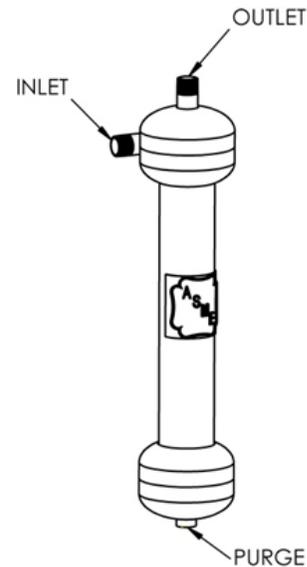
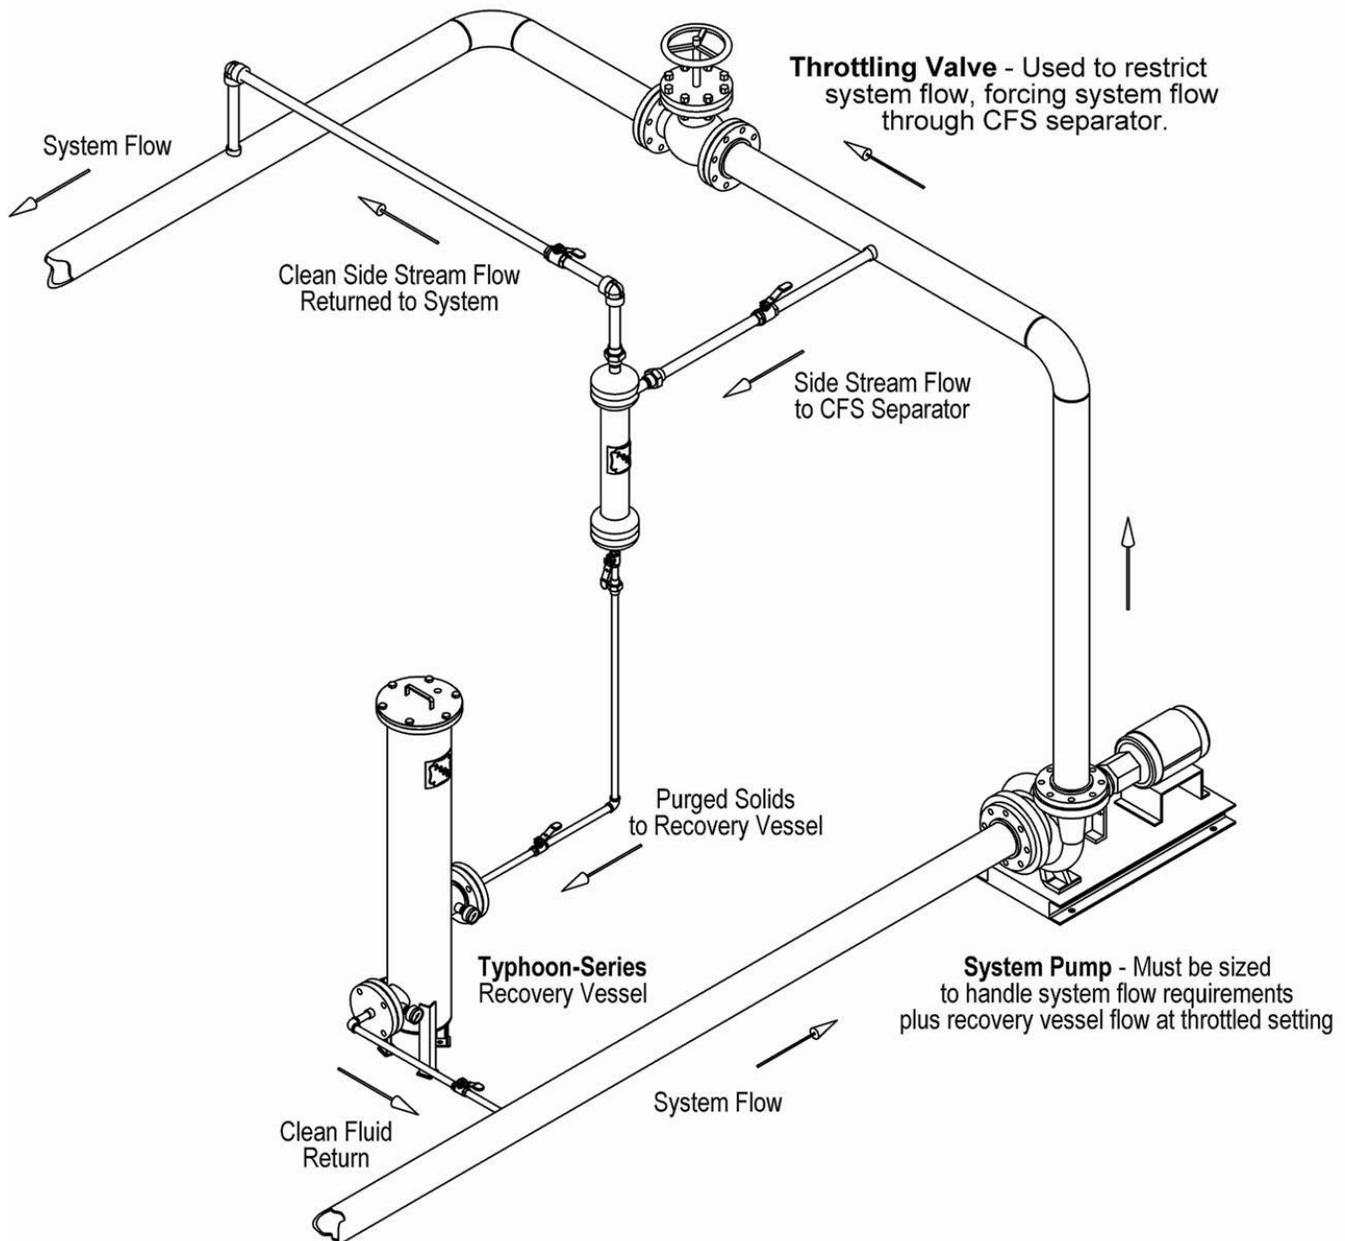

Figure 1.
Figure 2. CFS Side Stream Application using Throttling Valve
- Install piping to inlet and outlet as shown in Figure 1. Reference the example piping diagram in Figure 2 for a typical side stream application using a throttling valve to force system flow through the CFS separator.
- **Continuous Bleed Purging:** A manual pinch valve is most effective and should be left partially open at all times to control the rate of purged solids. Periodic inspection of the valve is recommended to avoid plugging of the reduced bleed orifice. As shown in Figure 2, this method is to be used with a recovery vessel to capture the collected sediment.